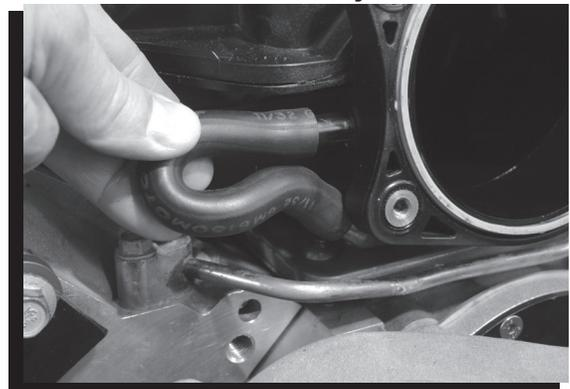

Figure 4 Mark and Remove Vacuum Lines.
5. Remove and note the use and position of any vacuum lines and PCV hoses (Figure 4).